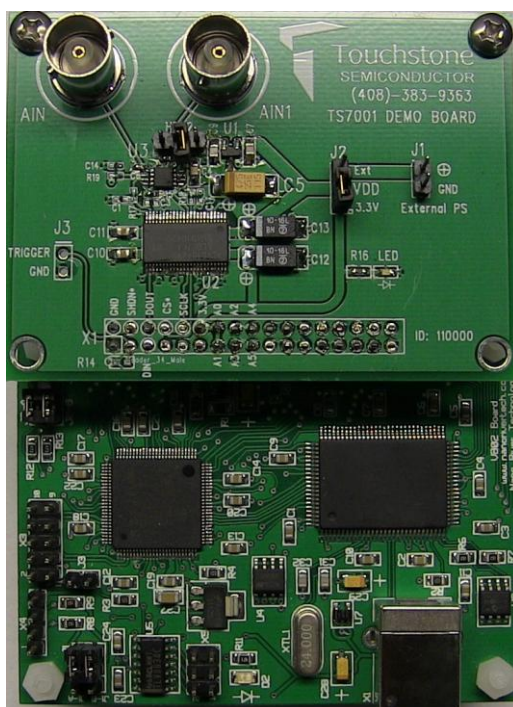
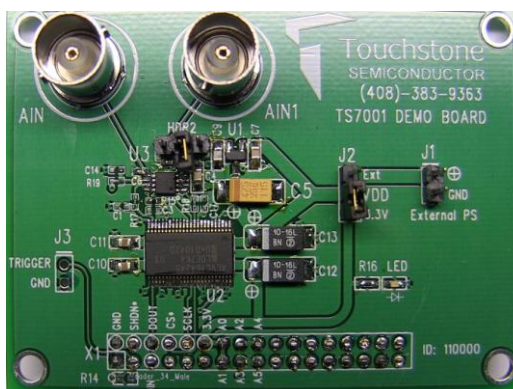
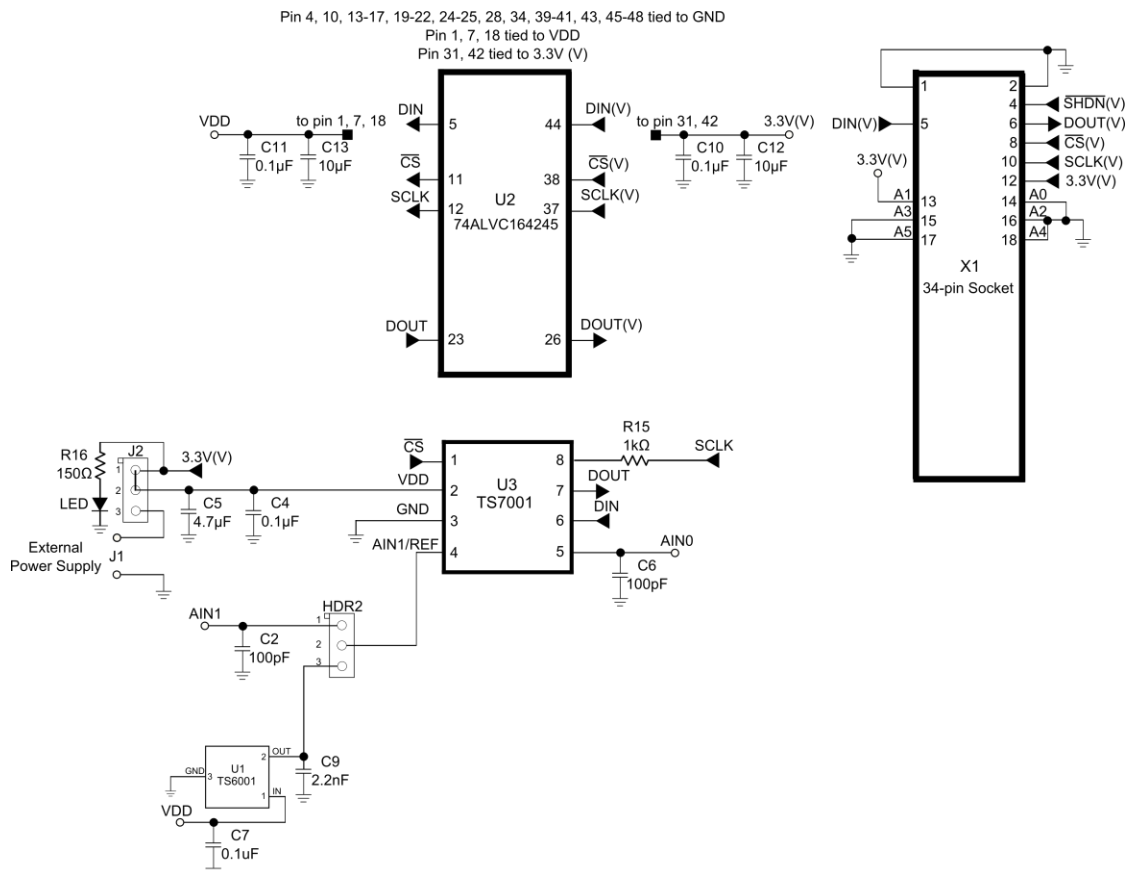

Figure 1. TS7001 Evaluation Board with Viperboard
Figure 2. TS7001 Evaluation Board (Top View)
Figure 5. TS7001 Evaluation Board Circuit
Figure 5 shows the TS7001 demo board schematic, Figure 2 and Figure 3 show a picture of the top and bottom of the TS7001 demo board, respectively. Figure 1 shows a picture of the TS7001 demo board with the viperboard connected.
In order to evaluate the TS7001, jumper J2 is to be set to position 2-3 and jumper HDR2 is to be left unconnected. The default configuration for J2 and HDR2 is 1-2 and unconnected, respectively. Refer to Figure 5 and Table 1. The default configuration on the board is for $V_{DD} = +3.3V$. For this evaluation, we will use an external +3.6V power supply and an external +3.6V reference voltage. The following steps are to be performed:
- 1) Set the voltage of the power supply between +2.7V and +3.6V and turn it off. Connect the positive terminal of the DC power supply to pin 12 labeled as "3.3V" on X1, and the ground terminal to pin 2 labeled as "GND". Refer to Figure 5.
- 3) To measure the supply current of the TS7001, place jumper J2 to position 2-3. Then, apply an external power supply to J1. An ammeter can now be connected in series with the power supply for a static supply current measurement of the TS7001. The supply current should be less than 900 μ A. Please refer to Figure 5 and table 1.